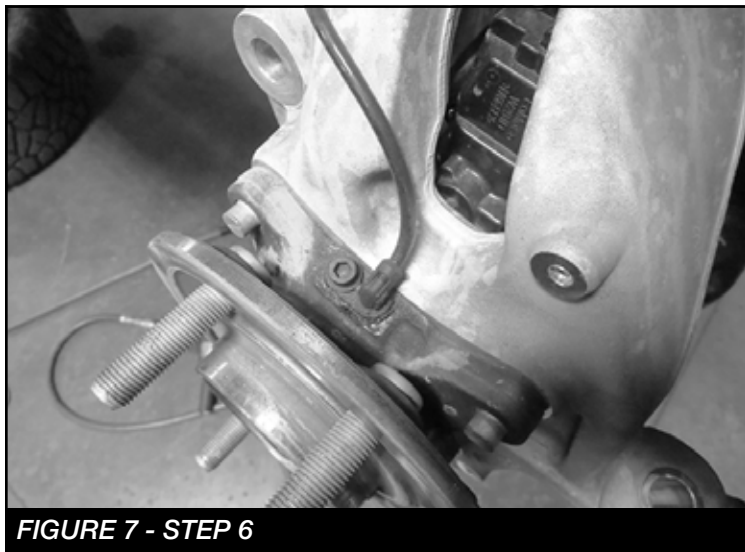

FIGURE 7 - STEP 6
6. Disconnect the ABS sensor from the knuckle and secure in a safe location. **SEE FIGURE 7**